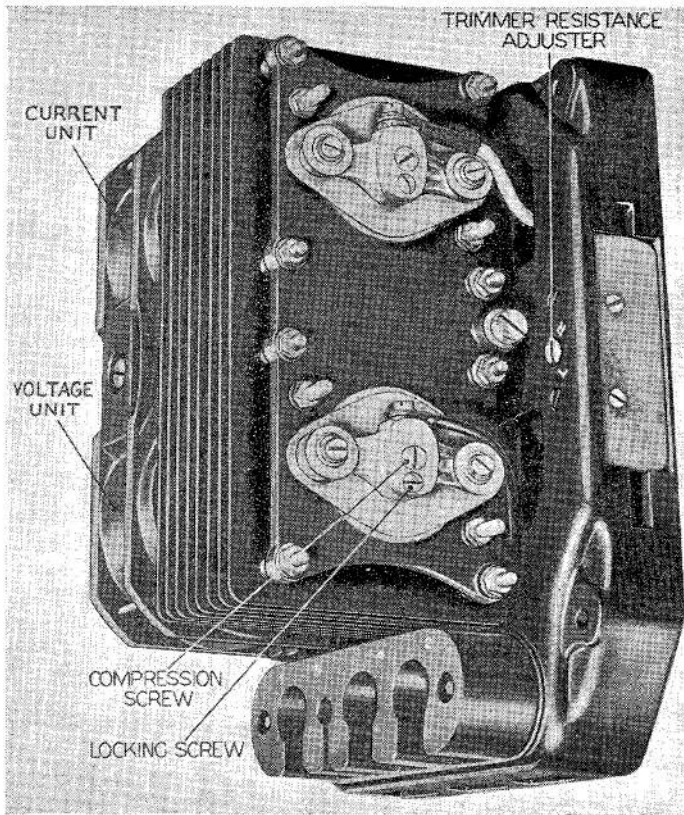

Fig. 1. Voltage regulator, Type J4A
3. The voltage regulator, Type J4A (fig. 1), incorporates a voltage control unit and a current limiting unit, the current unit being